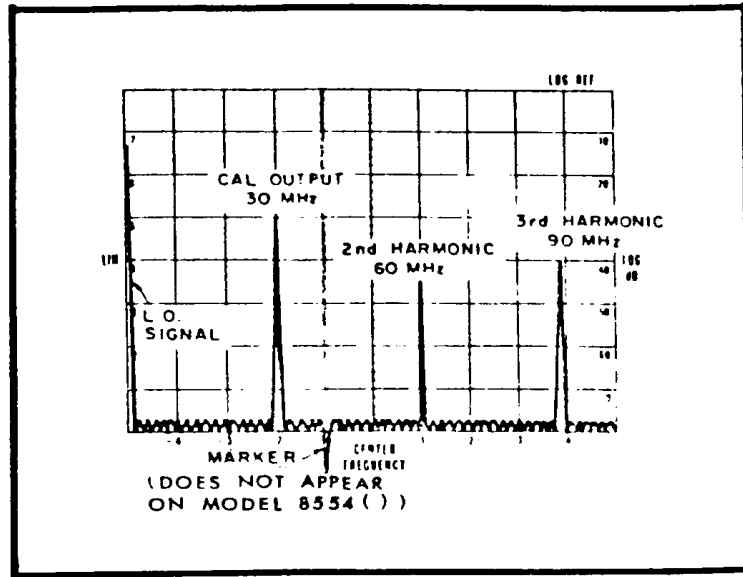

Figure 1. 30 MHz calibration signal and harmonics.
**k.** Position TI controls as listed in (1) through (5) below:
(5) Repeat **k(1)** above.
**l.** Connect RF plug-in **RF INPUT** to **TI CAL OUTPUT**, using cable (and adapter for Model 8554B). Display section will indicate as shown in figure 1.
**m.** Position RF plug-in controls as listed in (1) through (5) below:
(1) Model 8553( ) only: **FREQUENCY** control adjusted to position inverted marker under **CAL OUTPUT 30 MHZ** marker (fig. 1).
(5) **FREQUENCY** control adjusted to center **CAL OUTPUT 30-MHz** marker (fig. 1) on display.
**LOG** and **LIN** scales are not on some display sections. If not, use figure 1 as guideline.
p. Adjust **DISPLAY ADJUST VERTICAL GAIN** control to position signal amplitude display exactly on **LOG REF** (top) graticule line (fig. 1).
r. Position TI controls as listed in (1) and (2) below: